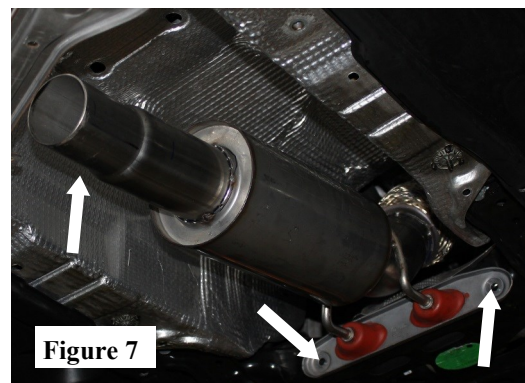

Figure 7
3. Install remaining original hardware to the **Down Pipe Assembly**. (See Figs. 7 & 8)